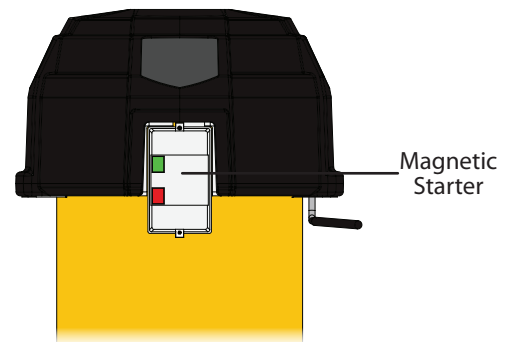

FIG. 33a
Plug in your collector and turn on the magnetic starter mounted on the Motor Assembly (A) [FIG. 33a].